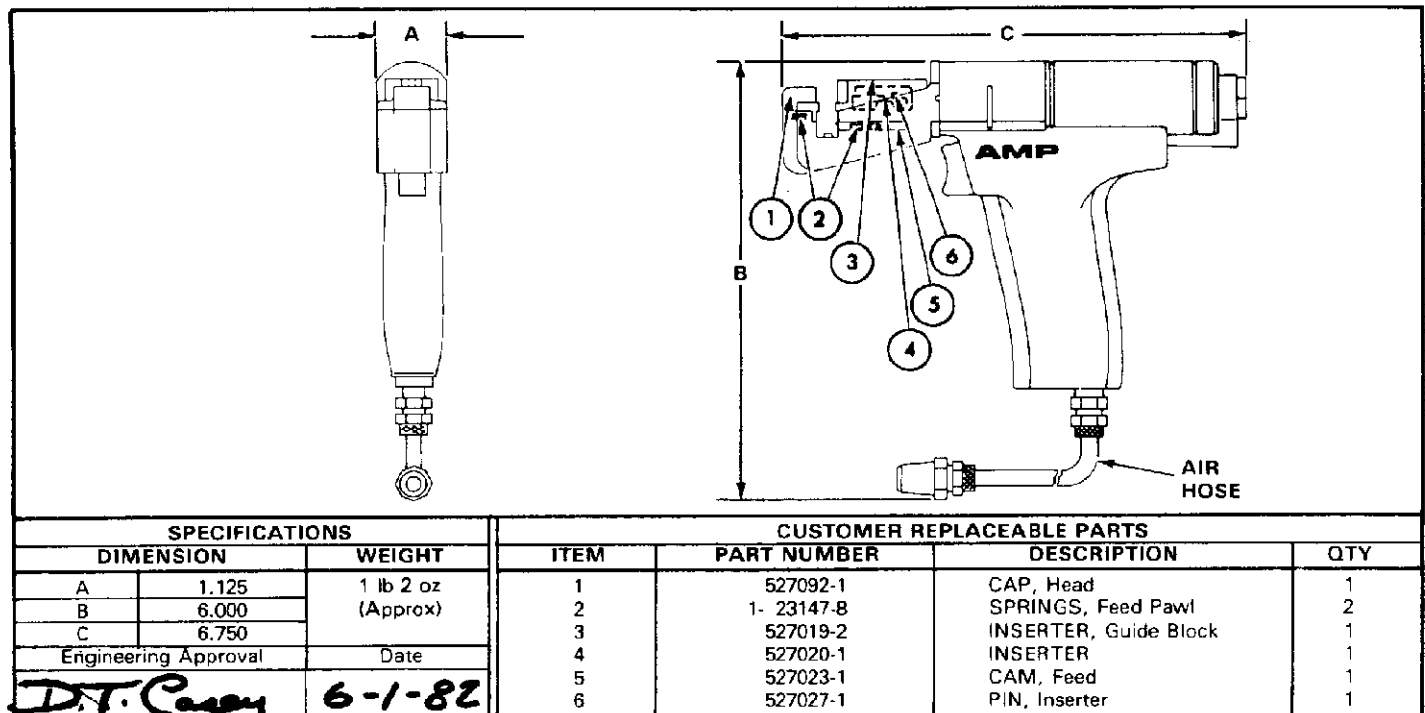

Fig. 4
6. TOOL CERTIFICATION (Figure 4)
Customer replaceable parts are listed in Figure 4. A complete inventory should be stocked and controlled to prevent lost time when replacement is required.
Parts other than those specified in Figure 4 must be replaced by AMP to ensure certification of the tool. When repair by AMP is necessary, return the tool with a written description of the problem to: